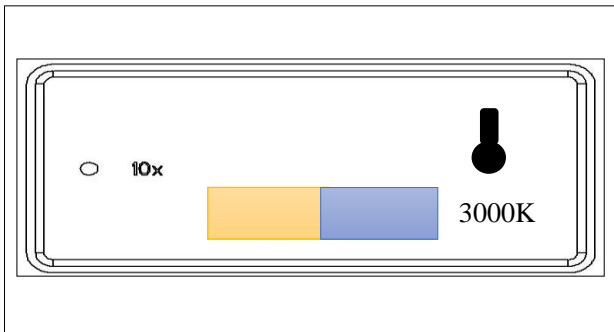

Fig.14
4. Press + down: perform color temperature adjustment (Fig.14).